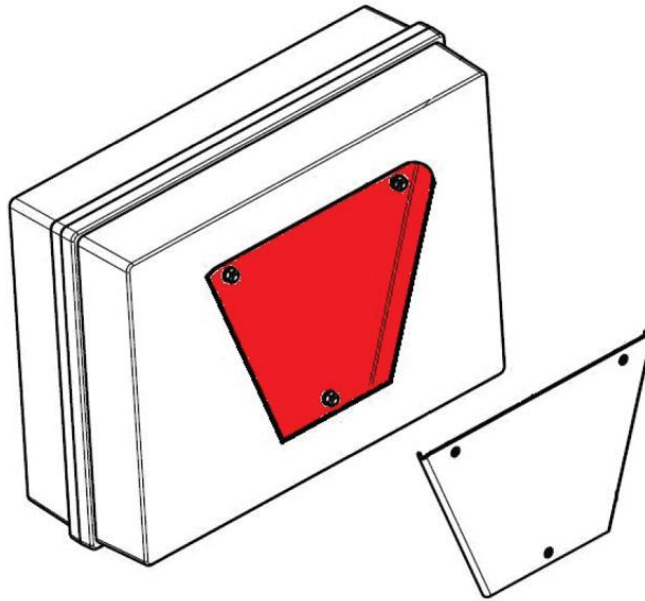

Figure 4-3: First aid kit and snap plate (above generator)
3. Use the outside triangular bracket (marked with red in Figure 4-3, p. 10) as a template to drill holes in the back of the first aid box, and bolt the bracket with the enclosed bolts.